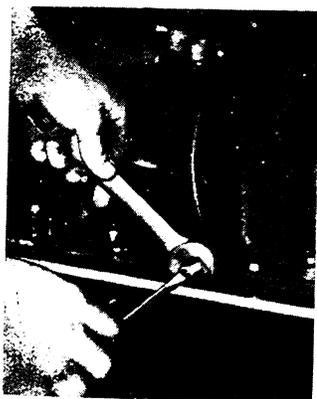
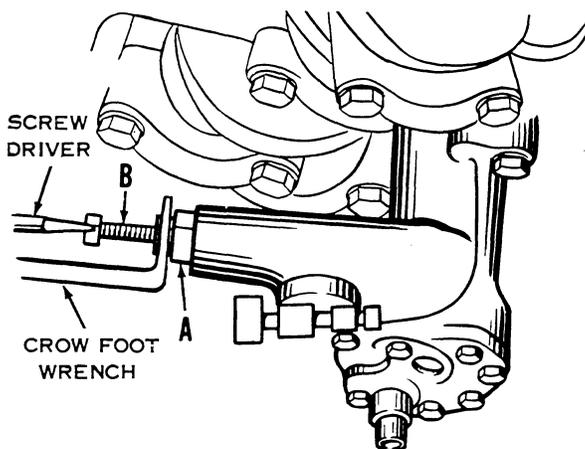

Fig.75 Oil Pressure Regulator - Adjustment
Fig.76 Oil Pressure Regulator - Adjustment
- (1) Run the engine until it has reached operating temperature.
- (2) Loosen the pressure regulator locking nut. See Fig. 75. Located inside oil pan on six cylinder engines. See Fig. 76.
- (3) Hold the locking nut and turn